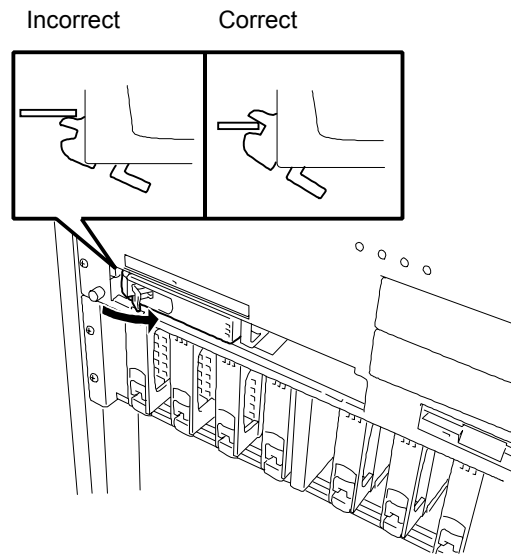

Figure 4-57. Securing Hard Disk Drive/Carrier in the System
- 11.** Push the lock lever toward the hard disk drive bay till the handle is completely locked. The lever clicks when it is locked. See Figure 4-57.